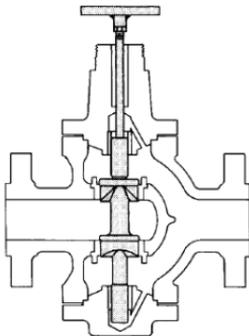

figure 5
- D. Install bottom flange (11), ensuring bottom bushing (15) is in place and secure to the body using 4 body stud nuts (6, 7) spaced equally apart. Fasten the bottom flange to the body using only slight pressure and tighten evenly.
- G. Place bonnet (5) on the body and using 4 body stud nuts (6, 7), spaced equally apart, fasten to the body using only slight pressure and tighten evenly.
- H. Insert two or three pieces of packing (17) into the packing box to assist in guiding the stem and plug during lapping.
- I. Screw a drilled and tapped rod with a tee handle onto the plug stem and secure with a lock nut. (See figure 5).
**Note : The plug should be lifted and turned 90 degrees before repeating step 10. This intermittent lifting is required to keep the plug and seat ring concentric during lapping. After completion of the lapping operation, remove body stud nuts (6, 7) from the bonnet (5) and bottom flange (11).**
- K. Remove bonnet (5) and bottom flange (11)